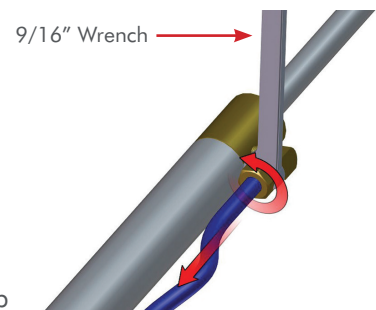
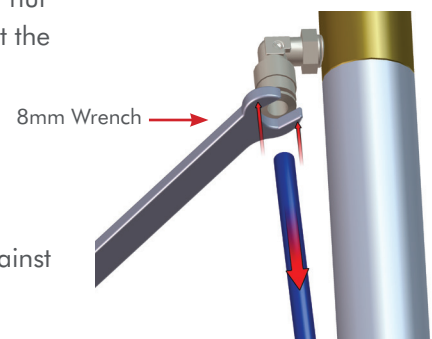

Figure 1
Figure 2
3. Hydraulic Cylinder: Using a 9/16" wrench turn the compression fitting nut counter clock wise (**FIG. 1**) or use a 8mm open ended wrench to press against the ring of fitting to release. (**FIG. 2**)